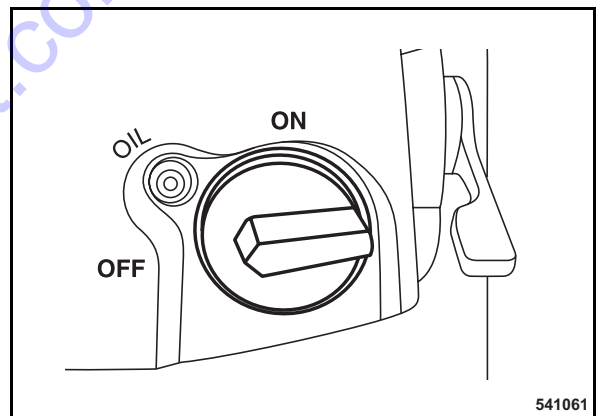

Fig. 52
- Set the engine stop switch (Fig. 52) to position "OFF" (fuel valve closed).